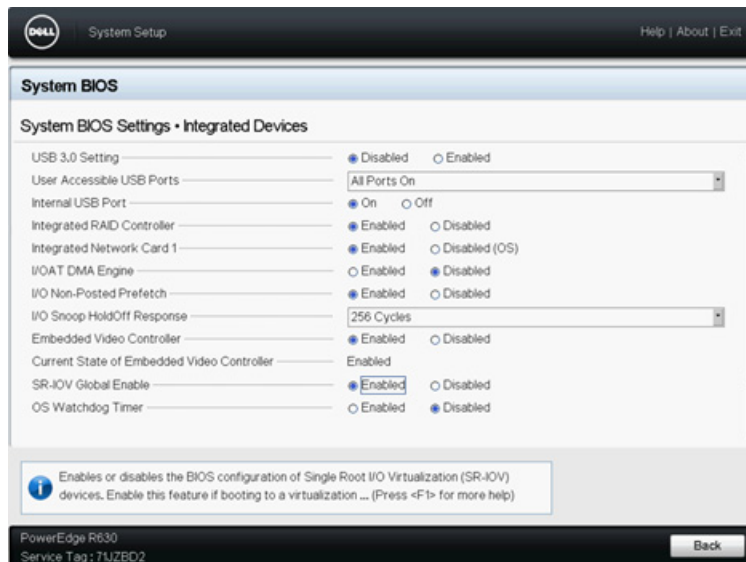

Figure 12-1. System Setup for SR-IOV: Integrated Devices
3. On the Integrated Devices page (Figure 12-1):
3. On the System Integrated Devices page (see Figure 12-1 on page 218):